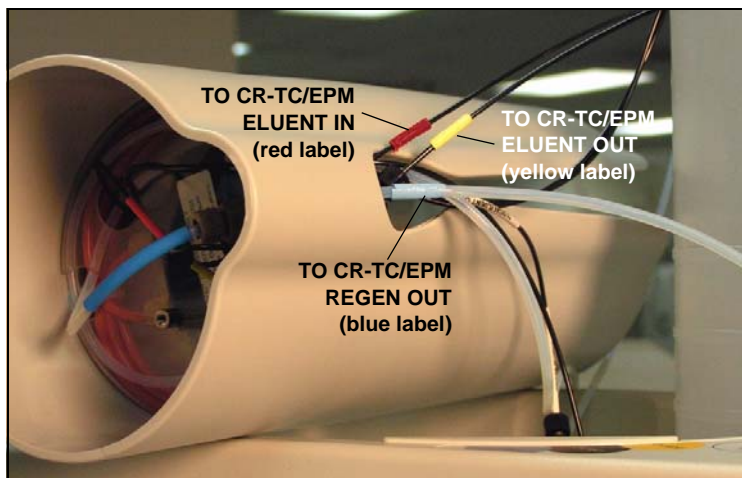

Figure 5-80. TO CR-TC/EPM Lines Outside of Holder
- Thread the three lines from the EPM (red, yellow, and blue labels) through the opening on the side of the new holder (see Figure 5-80).